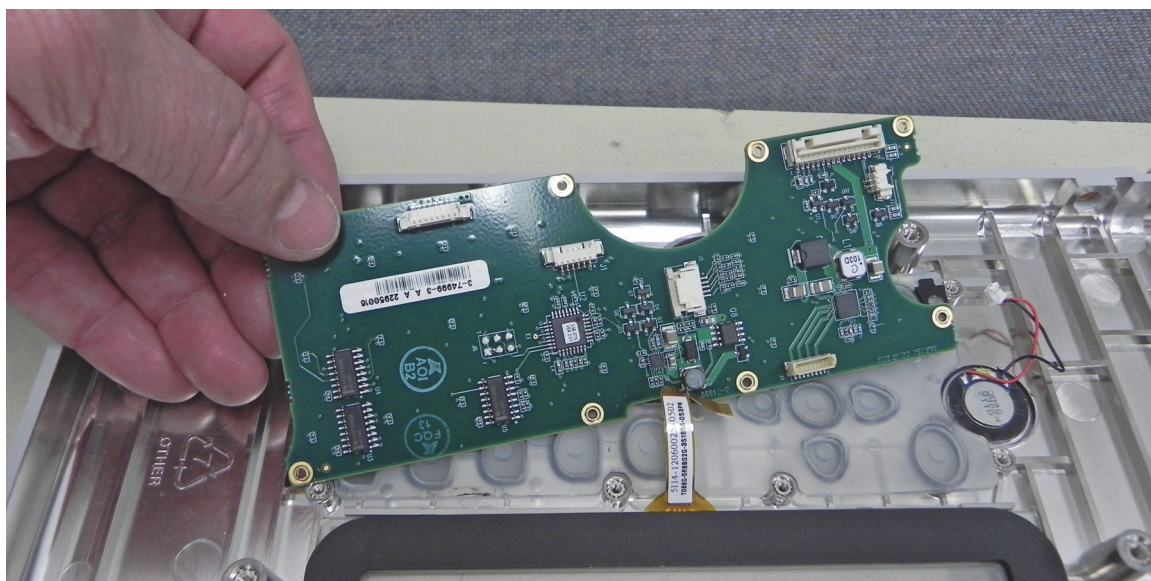

Figure 5-26. Remove Keypad PCB
- Carefully remove the PCB to expose the rubber keypad membrane (Figure 5-26).